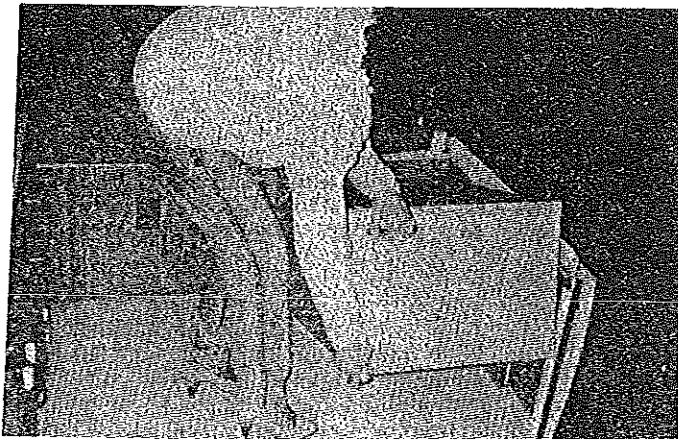

FIGURE 17
21. Grasp the handle located on the top of the wardrobe and raise the assembly until it is vertical. See Figure 17.